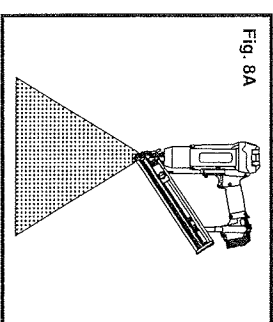

Fig. 8A
19. **KEEP HANDS AND BODY PARTS** away from area shown in Fig. 8A, to avoid injury.